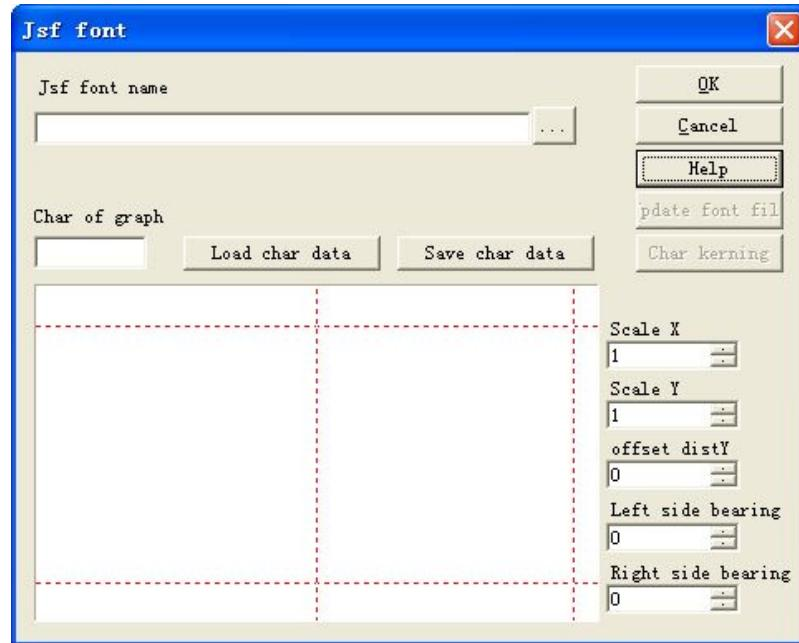

Fig 5-17 JSF font
When the user click JSF font, system will show a dialogue as figure 5-17.
Click "Modify" "JSF Fonts", then shown a font dialogue box as figure 5-17. Click button ..., and find ezcad2\font catalogue in the dialogue, input “EZCAD0521”, and then click the button to indicate dialogue as the follow figure 5-23 .
1. Click "JSF fonts" under "modify" menu, then shown the JSF font dialogue, as the figure 5-17->Click , open the dialogue to find the route: ezcad2\font->Input “EZCAD0521”--